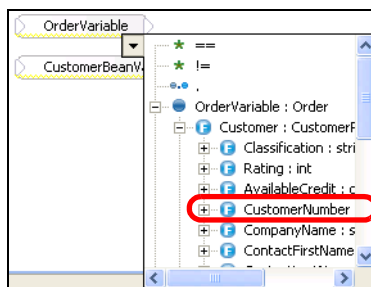

Figure 16-22 Visual Snippet: Expanding variables
- ▶ In the OrderVariable, expand the definition and select OrderVariable.Customer.CustomerNumber (Figure 16-22).